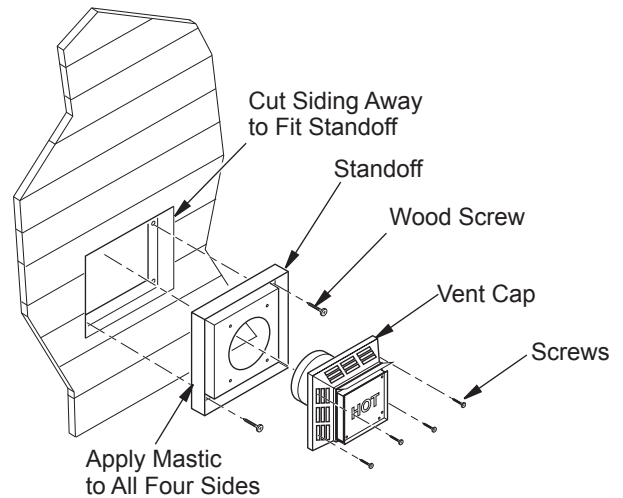

Figure 11 - Installing Siding Standoff (Combustible Exterior Wall)
**Combustible Exterior Wall:** For vinyl siding, stucco or wood exteriors, a siding standoff may be installed between the vent cap and exterior wall. The siding standoff prevents excessive heat from damaging the siding materials. Siding material must be cut to accommodate standoff. Bolt the vent cap to the standoff. Apply non-hardening mastic around outside edge of standoff. Position the standoff/cap assembly in the center of the 10 3/4" square hole and attach to exterior wall with wood screws provided (see Figure 11). The siding standoff must sit flush against the exterior fascia material.